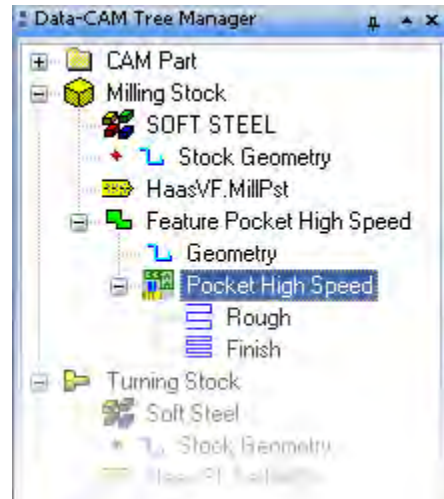

figure 7.1
- Next click the plus sign next to **Pocket High Speed** to reveal the tools that are being applied. By default a **Rough** and a **Finish** tool will be displayed (figure 7.1).